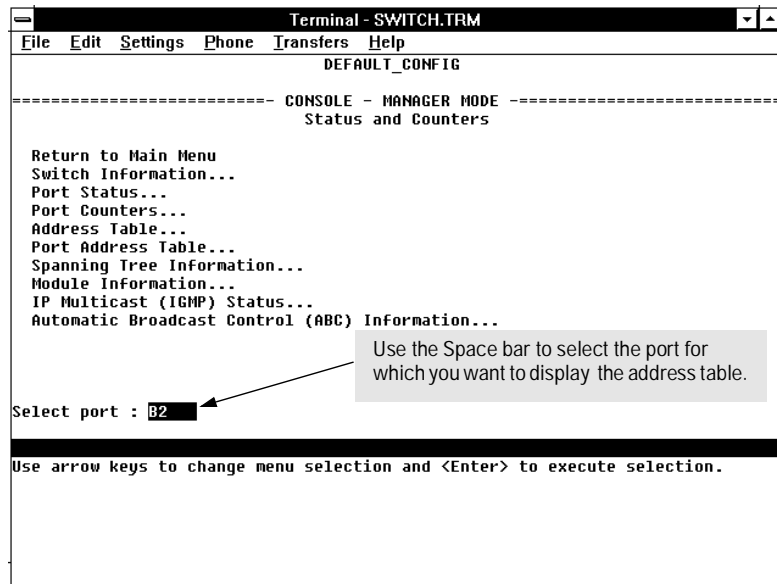

Figure 4-7. Example of How To Access the Port Address Table
2. When the `Select Port` prompt appears, press the Space bar to display the port you want to examine, then press `Enter`. (See figure 4-7, above.)